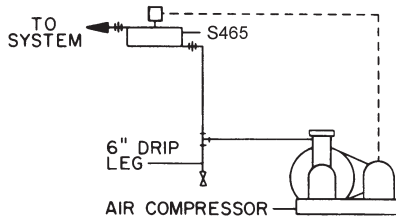

FIGURE 2
- B. A drip leg is to be installed in the air line between the air compressor and S465 as shown in Figure 2, if a moisture filter with integral drain is not installed at the outlet of the air compressor.